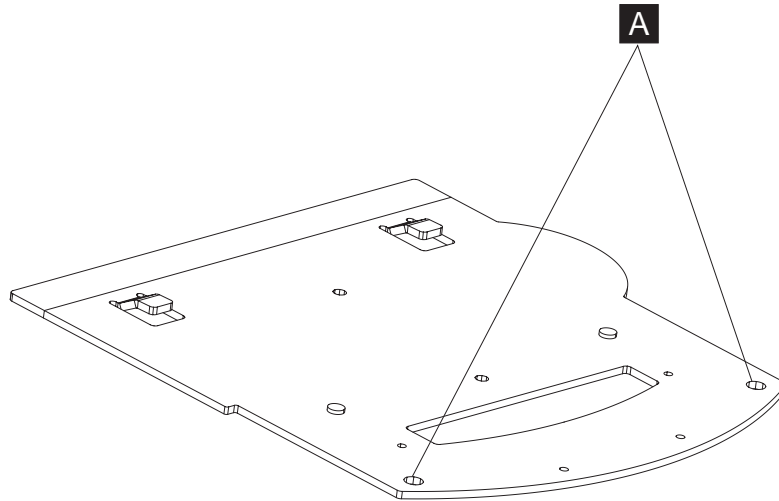

Figure 63. Attaching the base plate to the countertop
1. Use the SurePOS 500 base plate as a pattern for drilling two mounting-screw holes at location **A** in Figure 63 on page 97. If you plan to route the cables underneath the counter, use the base plate as a pattern to drill the cable opening and for drilling the holes for the mounting screws.